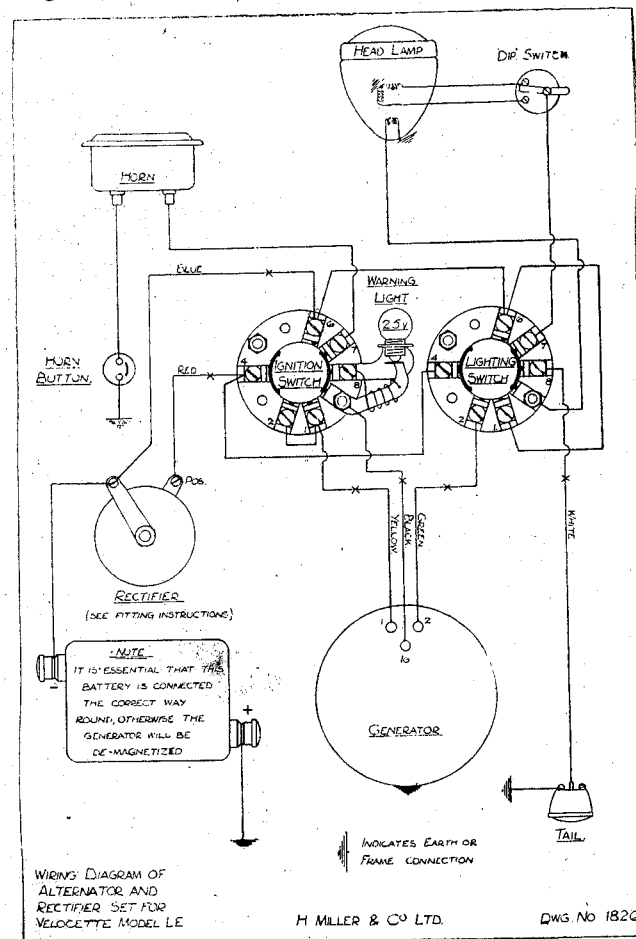

FIG. 69. Wiring Diagram for Miller Type AC3 Set. (Used on Machines prior to Eng. No. 200/15840.)
**Warning.** The rotor of any Miller set Type AC3 as used on machines before Engine No. 200/15840 will become demagnetised if the battery is connected up incorrectly. Always refer to the wiring diagram, Fig. 69, Page 83 if in doubt. The positive battery terminal (+) is connected to "earth".